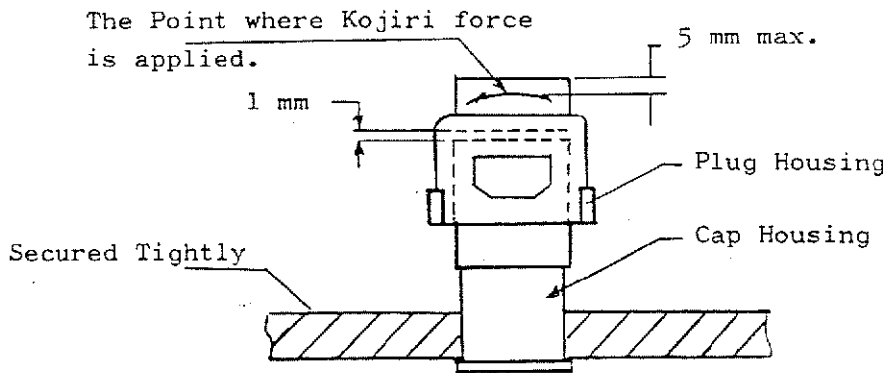

Fig. 5
Tightly secure a connector assembly on a sturdy bench and mate a counter-part connector as shown in Fig. 5. "Kojiri" testing is performed by applying a torque force of $196\text{N}\cdot\text{cm}$ (T) to the mated connector reciprocatingly to force in right-left direction at every depth of 1 mm graduation along the extraction stroke, until the connector halves are completely separated. Making one separation a cycle, repeat insertion and extraction in the same manner for 25 cycles. After completion of 25 cycles in this direction, turn it to a traverse direction, and repeat for another 25 cycles as stated.